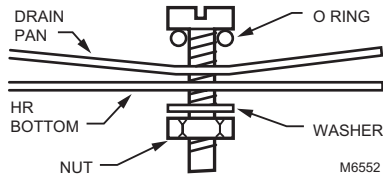

Fig. 9. Installing drain line.
3. Hand tighten the nut. See Fig. 9.